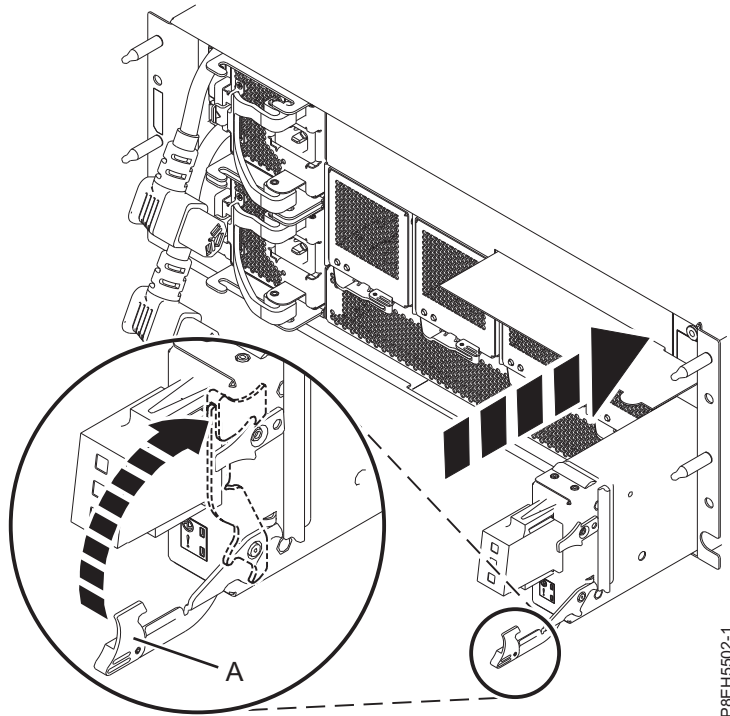

Figure 6. Replacing the chassis management card
2. Slide the chassis management card completely into the slot and push the lever (A) up to secure the card. See Figure 6.